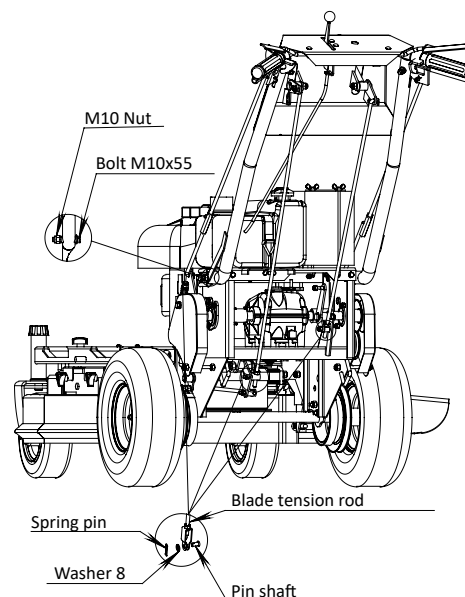

FIG. 4
- Unfold the handle and secure it with four Flange Hd M10×25. Bolt and four M10 locknuts on each side as shown in FIG 4.
- Insert the threaded pin of the connector at the end of the right and left steering tie rods through the hole of the right and left brake rocker arms; add the M6 nut and 8 washer and tighten. Next, insert the threaded pin of the connector at the end of the gear control assembly rod through the hole of the gear control arm; add the M6 nut and 6 washer and tighten. Finally, insert the threaded pin of the connector at the end of the blade control rod through the hole of the tension rocker arm; add the M6 nut and 6 washer and tighten. See FIG 4